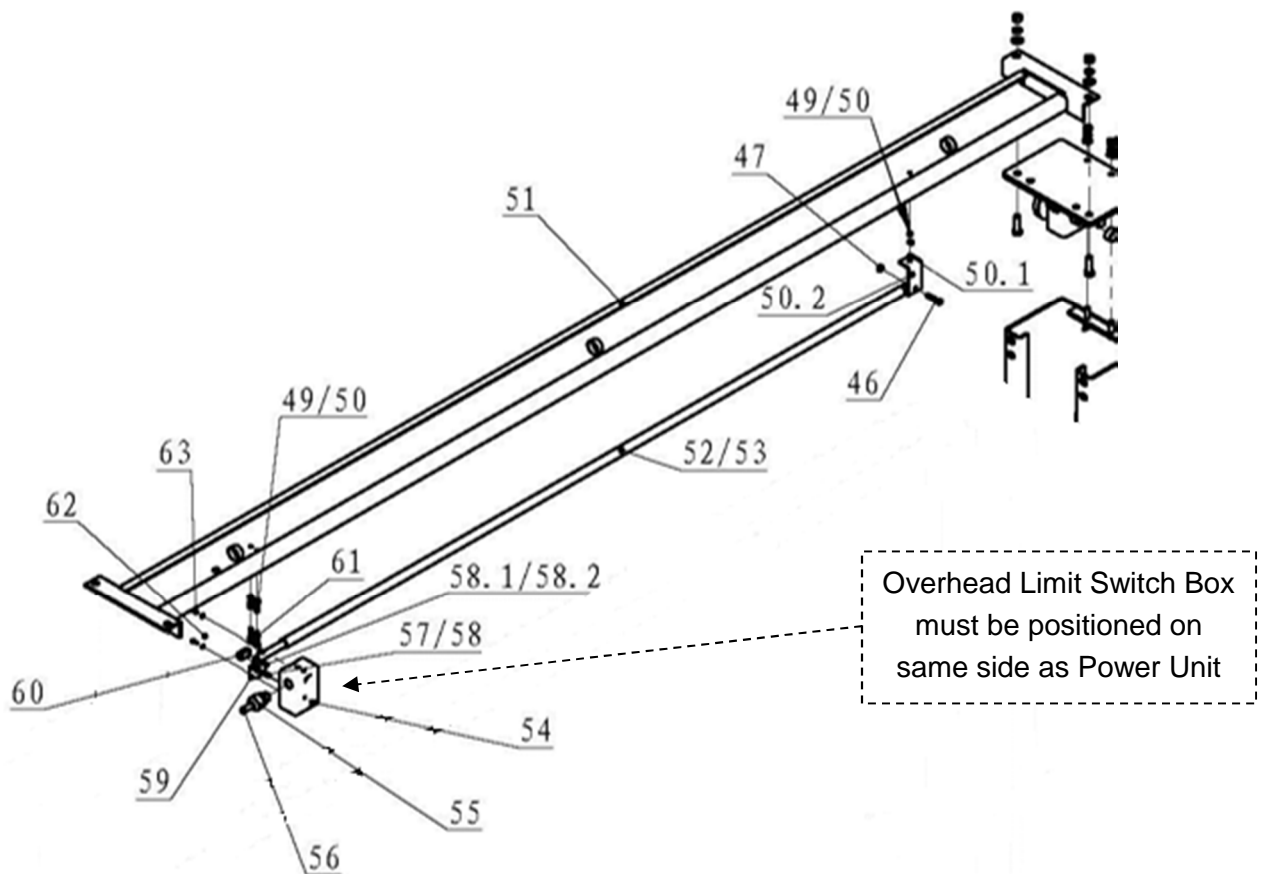

Fig. 6
2. Assemble and mount the Overhead 'padded' Shut-Off Bar & Limit Switch assembly to the Overhead Beam, as shown below in **(Fig 6)**.
3. Using a lifting device, raise the Overhead Beam assembly and position on top of the columns. Bolt it to the columns using the bolts, nuts and washers, as shown in **(Fig. 6)**.